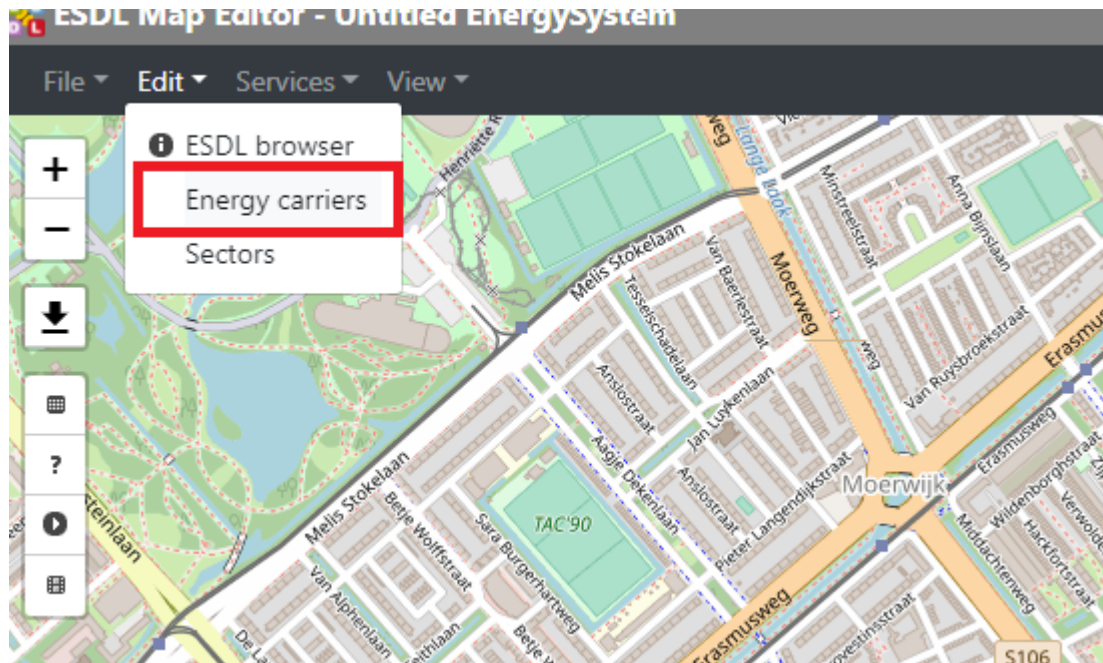

Figure 11: Adding a new Energy Commodity
- Mouseover the ***Edit*** menu item and click on ***Energy carriers*** (see Figure 11).